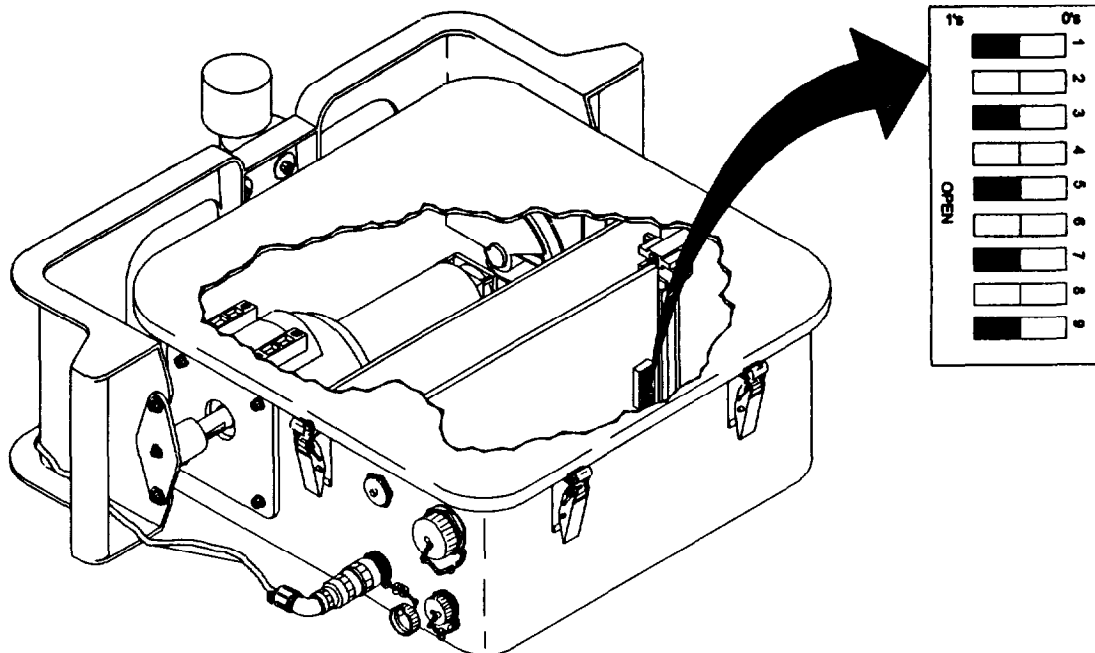

Figure 2-9. Setting Address Code on ITM.
c. **Setting the Binary Code on the ITM Address Switch.** Each individual ITM on a ERETS range is assigned a specific number or target address (reference paragraph 1-18c (1)). The address of the individual ITM is determined by the setting on the address switch, located on the control logic CCA (refer to figure 2-9). The target address assigned to the ITM is based on a binary numbering system. A total of nine switches on the address switch can be positioned in "0" and "1" combinations that represent a binary code. The binary code is a combination of binary numbers that are used to identify target numbers 1 through 511.